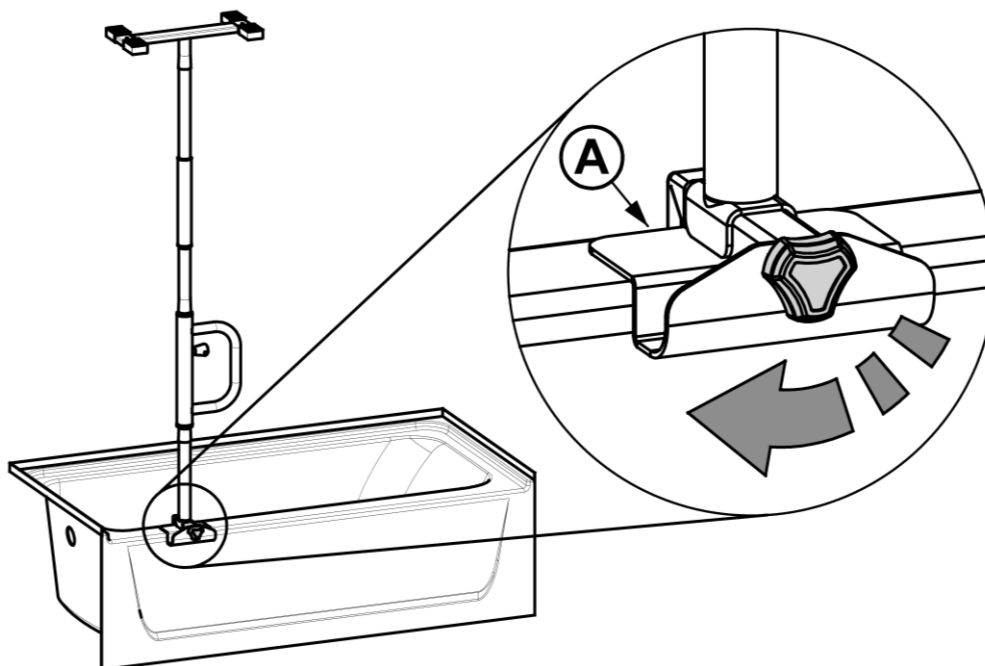

FIGURE 7
7. Fully tighten Clamp **A** as shown in *FIGURE 7*.